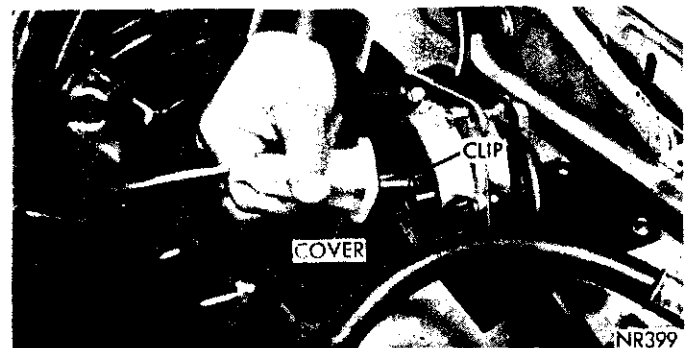

Fig. 6—Removing or Installing Throttle Cable Cover
from servo to expose cable retaining clip (Fig. 6) and remove clip attaching cable to servo diaphragm pin.
(1) Remove air cleaner.
(2) Disconnect cable at retaining clamp and at carburetor lost motion link, removing hair pin clip.
(3) Disconnect cable at servo (Fig. 6) and remove cable assembly.